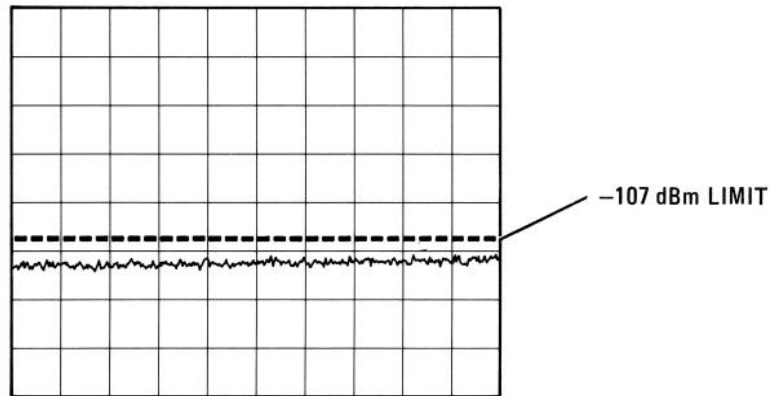

FIGURE 4-12. AVERAGE NOISE LEVEL MEASUREMENT
2. Adjust TUNING until LO feedthrough is not on screen. Set VIDEO FILTER to MAX (not in detent) and observe CRT display of noise level from 1 MHz to 1000 MHz. Noise level, as shown in Figure 4-12, should be less than -107 .
001: *Change " -107 dBm" to " -100 dBm" throughout procedure and in Figure 4-12.*
002: *Change " -107 dBm" to " -53 dBmV" throughout procedure and in Figure 4-12.*